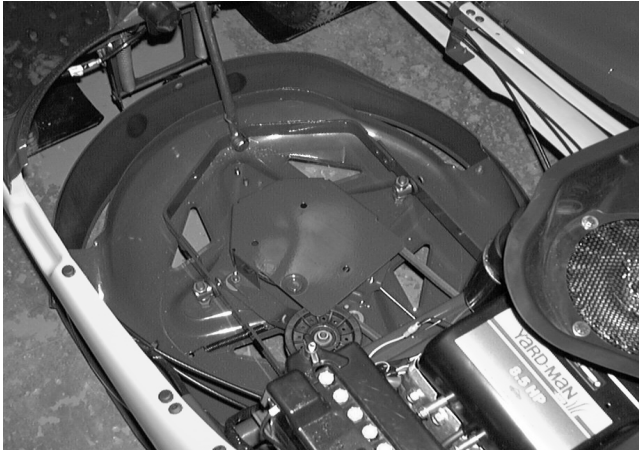

FIGURE 1.
- 2). Raise the hood and remove the grass bag assembly and discharge chute. See figure 1.